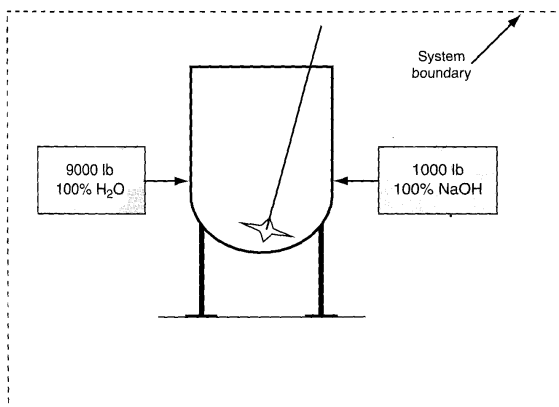
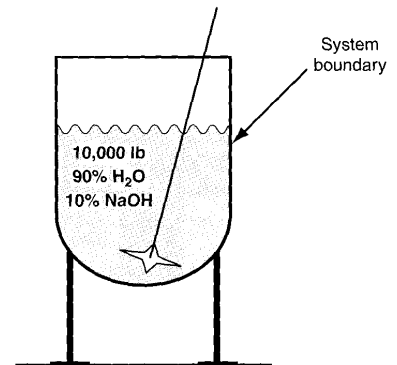

Figure 11a The initial state of a batch mixing process.
Figure 11b The final state of a batch mixing process.
- ◆ Look at Figure 11a that illustrates what occurs at the start of a batch process, and after thorough mixing, the final solution remains in the system (Figure 11b).